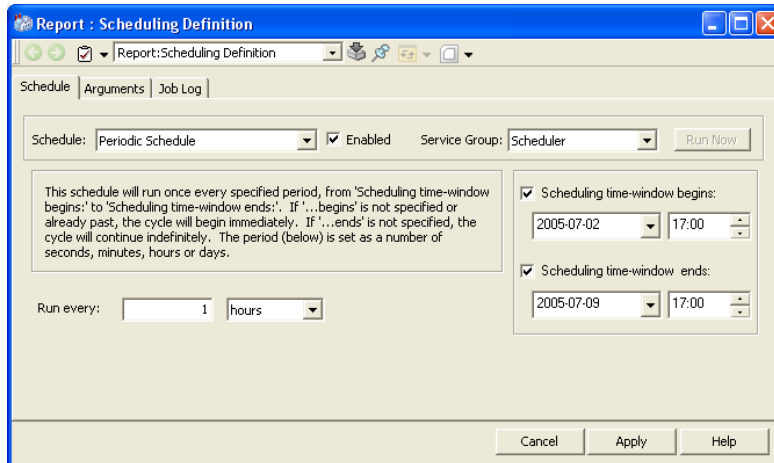

Figure 192. Scheduling Definition Aspect Configuration View - Periodic Schedule
7. In this example (Figure 192) the scheduling is configured to run as a periodic schedule. Executed every hour starting July 2nd at 17:00 (5:00PM), and continuing until July 9th at 17:00.